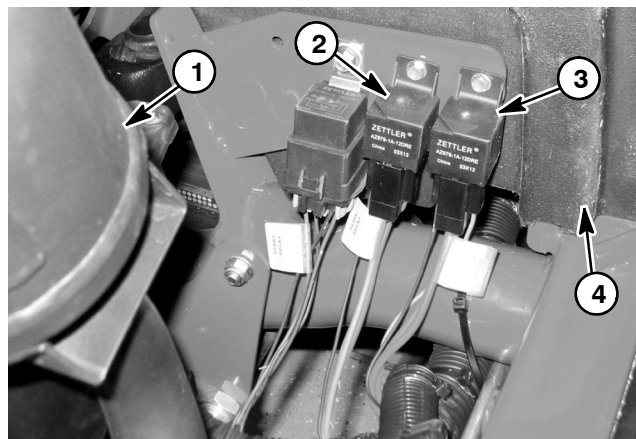
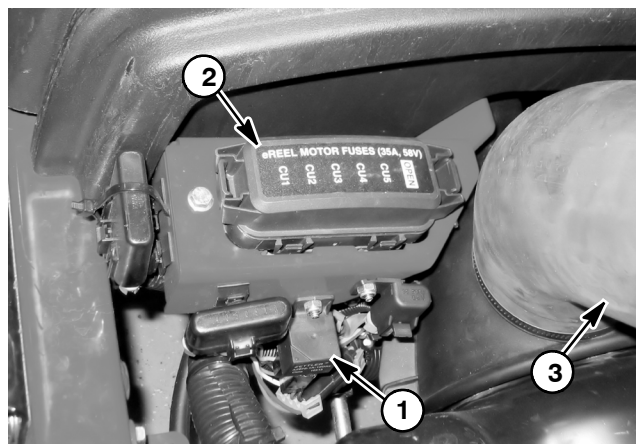

Figure 51
Figure 52
Your Reelmaster uses three (3) identical electrical relays that have four (4) terminals. The main power and glow relays are attached to a frame bracket under the hood near the engine exhaust muffler (Fig. 51). The 48 VDC logic relay is attached to a frame bracket under the hood behind the reel motor fuse block (Fig. 52). A tag near the relay harness connector identifies each relay.